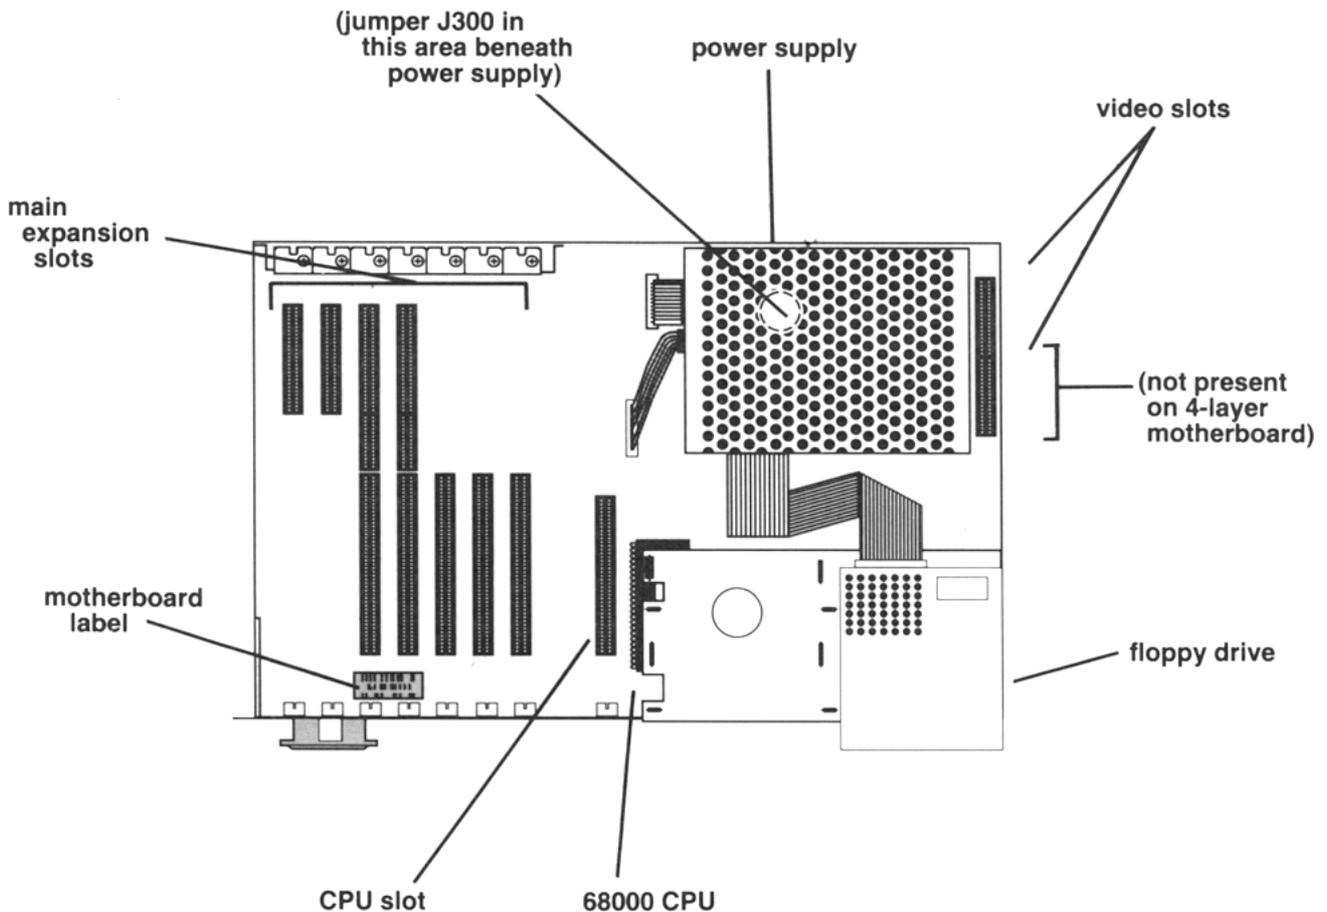

Fig. 2: A2000 - Top View
Before installing the A2320, you must first determine whether your Amiga 2000 has a 2- or 4-layer motherboard. **The A2320 can ONLY be used with the 2-layer motherboard version of the Amiga 2000.** This is determined by looking at the front left-hand corner of the motherboard. You should find, on the left edge of the motherboard, a label which says "AMIGA B2000 - CR" which indicates that your Amiga does indeed have a 2-layer motherboard. (See Fig. 2.)
- 7) To insure that your computer was set properly at the factory, remove the Amiga's cover, as shown in the chapter on installing the A2320, and check to see that the shorting block on jumper J300 on the motherboard is on the default setting. This jumper is located under the power supply (noted in Fig. 2) but you may be able to see the jumper by looking back from the right front corner of the Amiga. The shorting block should be connecting the leftmost and center pins of the 3-pin jumper. This jumper determines the time base used for the 50/60 Hz CIA timer chip. In normal (factory default) position, the 50/60 Hz TICK clock, based on AC line frequency, is used as a time base. In the alternate position, the vertical sync pulse from the video section is used. The A2320 may not operate correctly if the vertical sync pulse is used as the CIA time base, with the jumper in the right-hand position.